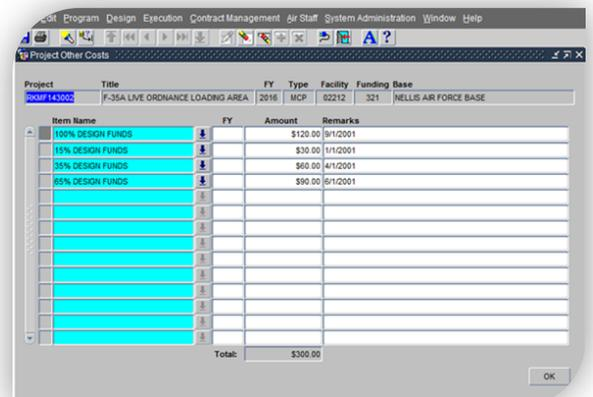

Figure 3.8b. Project Other Costs Screen (Design Funds Spend Plan)
B. **Design funds Spend Plan.** (Figure 3.8b) When the DM receives the Agent’s estimate for design costs and schedule, the DM will update the fields shown (as required).